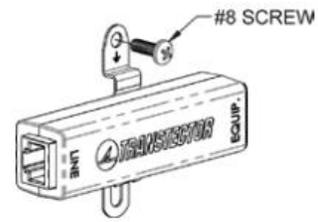

Figure 1c
2. Wall mounting – attach the provided mounting clip to the DPR protection module normal to the base to expose the auxiliary mounting hole, using the provided 4-40 screw and lock washer as shown in Figure 1c.